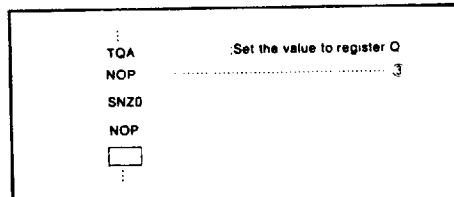

Fig.12 Example program-2
Also, more than one instruction is need before SNZ0 instruction (③)(see Figure 12).